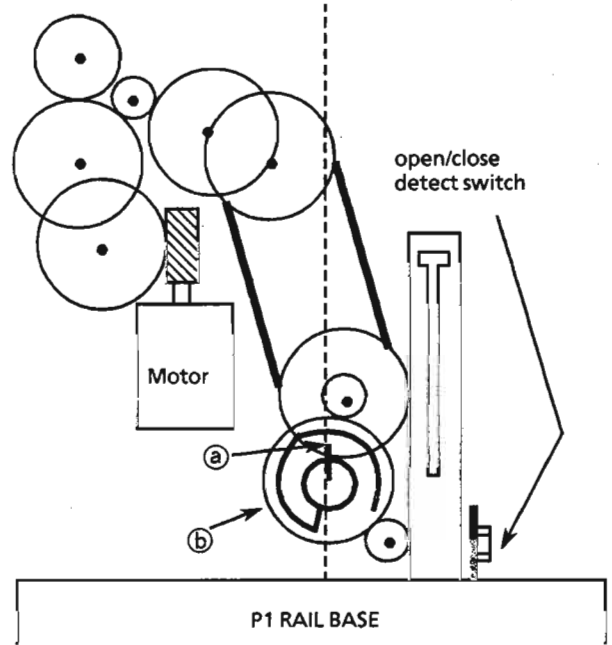

Fig.10
- ※ Install gear ㉟ so that part ㉟ shown in fig.10 is perpendicular to the P1 rail base.